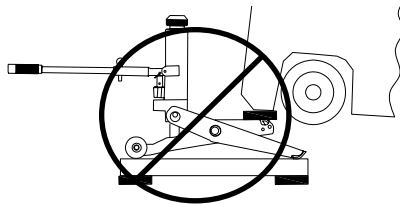

**Figure 6**
**WARNING! NEVER use any other area on the jack as a contact point (see Figure 6).**